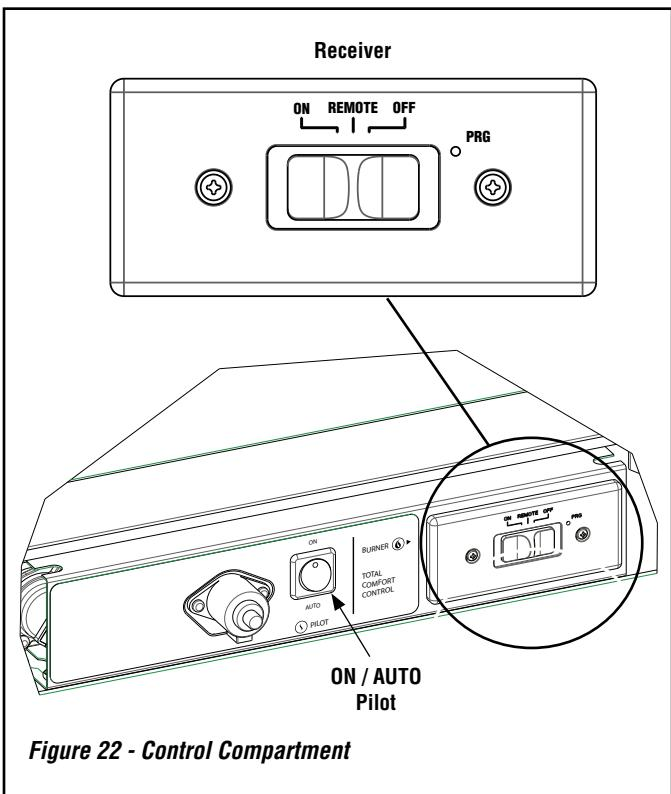

Figure 22 - Control Compartment
Place the 3 position slider switch in the "Remote" position (see **Figure 22**). Using the end of a paper clip, or other similar object, insert the end of the paper clip into the hole marked "PRG" on the Receiver front cover. The Receiver will "beep" three (3) times to indicate that it is ready to synchronize with the Remote (transmitter).
NOTE: The blower can be controlled only by the remote. Turning the appliance off with the unit mounted three position slider switch (**Figure 22**) will NOT turn off the blower. To turn off the blower, use the remote in lieu of or prior to shutting the appliance off at the three position slider switch (**Figure 22**).